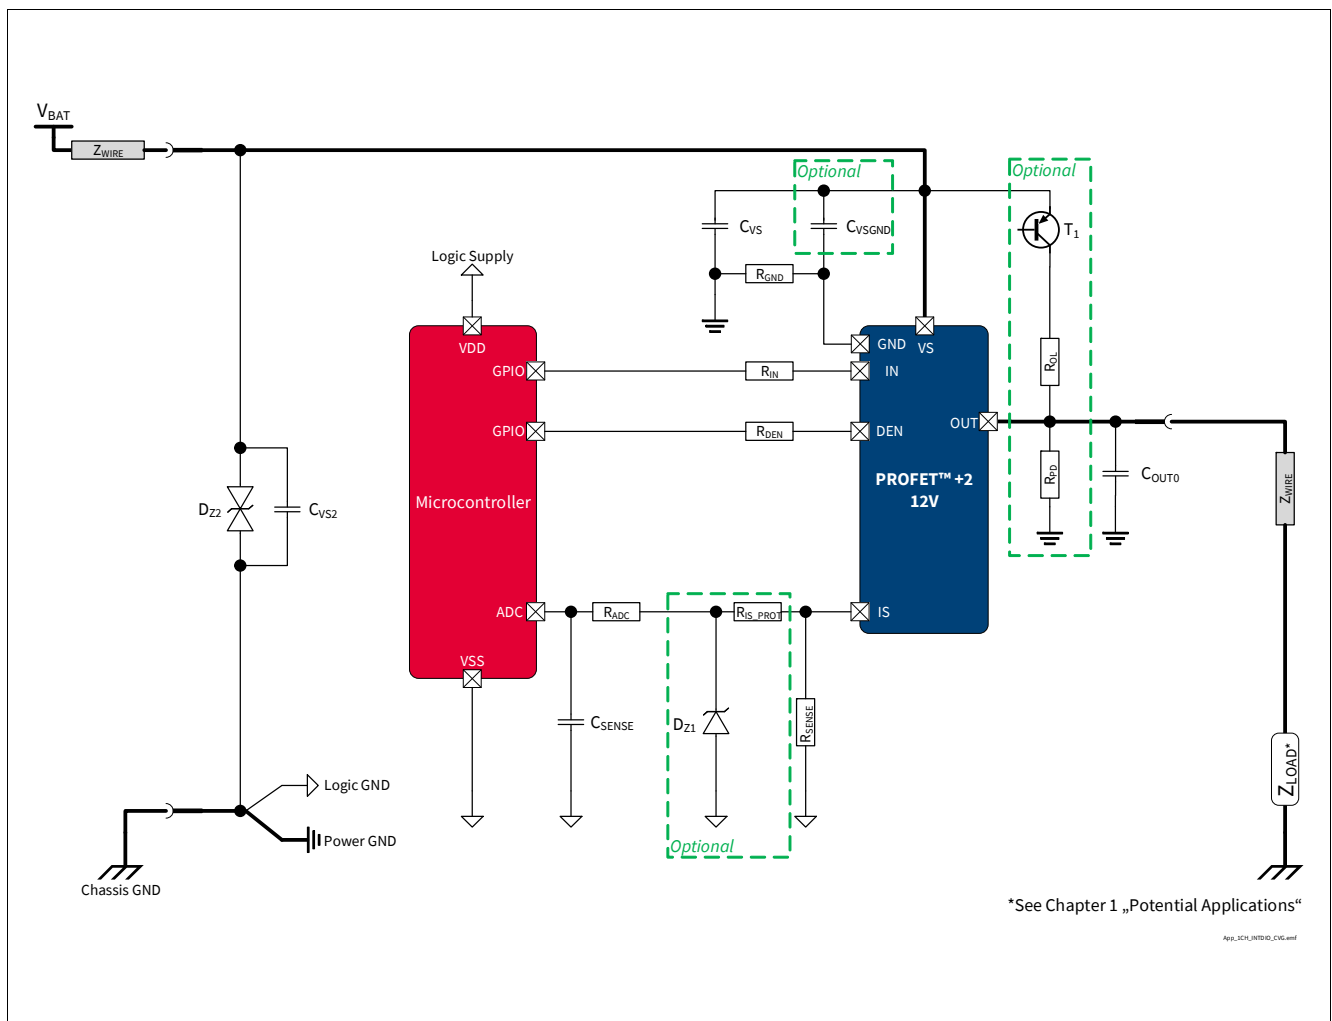
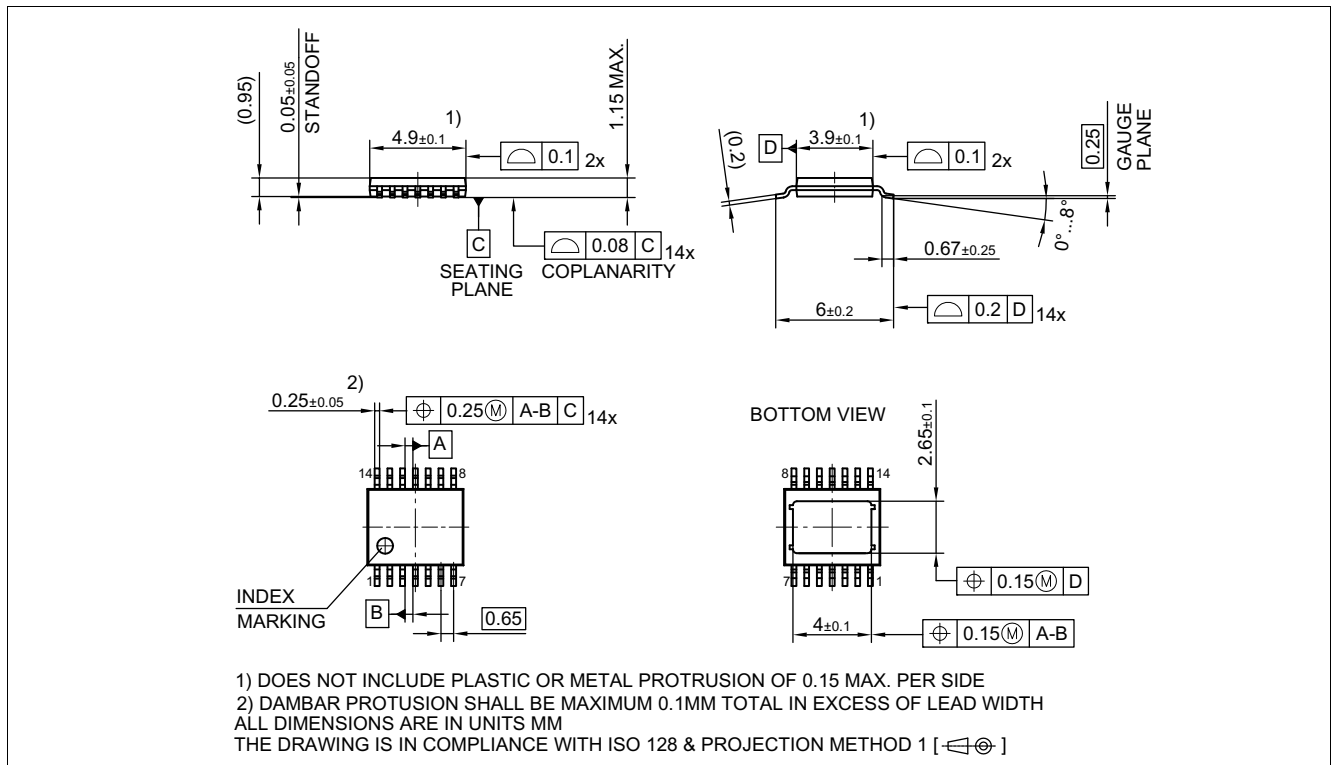
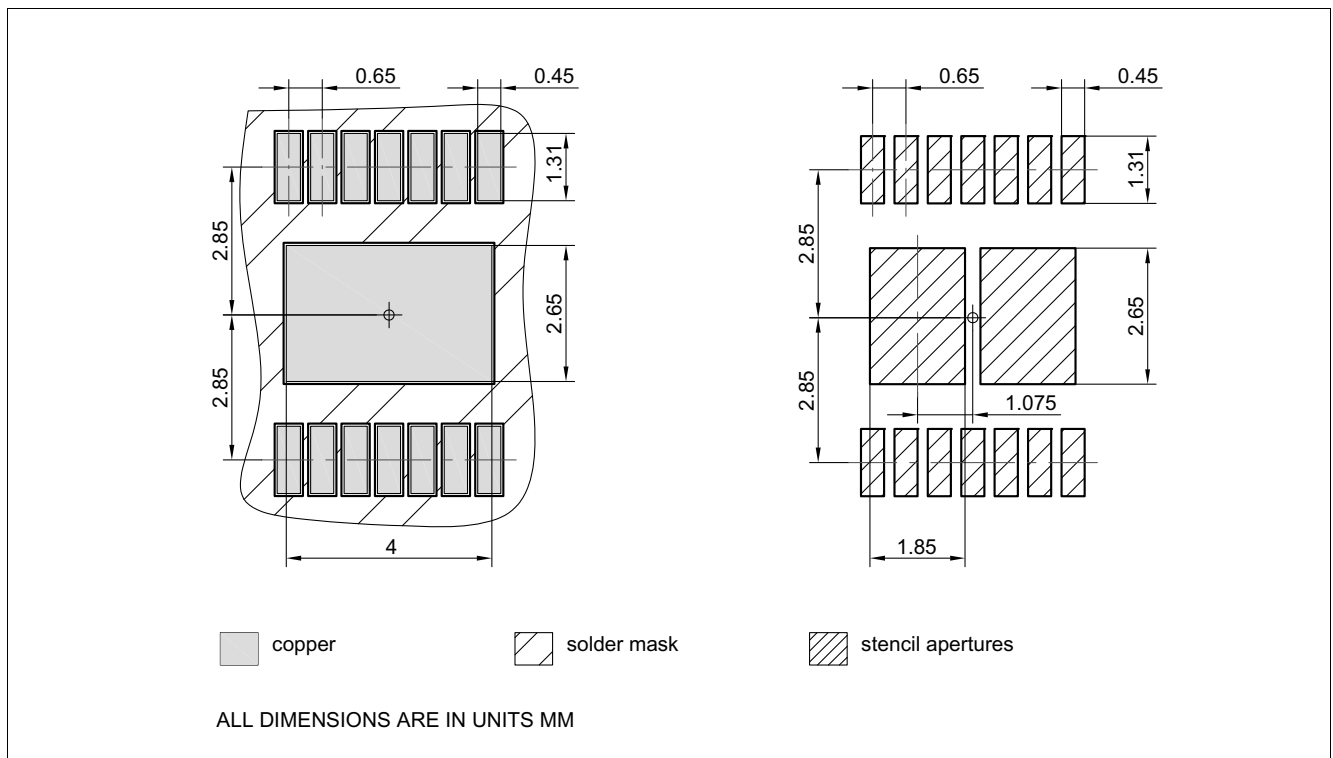

Figure 37 BTS7004-1EPP Application Diagram
Figure 38 PG-TSDSO-14 (Thin (Slim) Dual Small Outline 14 pins) Package Outline
Figure 39 PG-TSDSO-14 (Thin (Slim) Dual Small Outline 14 pins) Package pads and stencil
1.10, 2020-12-14	<p>Typo fixed (PROFET™+2 → PROFET™ +2)</p> <p>Figure 1, Figure 16, Figure 17, Figure 18, Figure 20, Figure 21, Figure 22, Figure 25, Figure 29, Figure 30, Figure 34, Figure 37 updated</p> <p>Chapter 1, Chapter 6.1, Chapter 6.1.3, Chapter 6.1.4, Chapter 8.2, Chapter 9.2.2 updated</p> <p>Chapter 8.4.1 updated (typo fixed)</p> <p>P_7.4.5.1, P_7.4.5.2, P_7.4.5.3, P_7.4.5.4, P_7.4.5.6, P_7.4.5.7 updated (added in Note or Test Condition: See Figure 15)</p> <p>P_8.6.4.1 updated (added in Note or Test Condition: See Figure 26)</p> <p>P_8.6.4.2 updated (added in Note or Test Condition: See Figure 27)</p> <p>P_9.6.0.6 updated (Parameter: SENSE Operative Range for k_{ILIS} Operation ($V_S - V_{IS}$) → Saturation Voltage in k_{ILIS} Operation ($V_S - V_{IS}$))</p> <p>P_9.6.0.7 updated (Parameter: SENSE Operative Range for Open Load at OFF Diagnosis ($V_S - V_{IS}$) → Saturation Voltage in Open Load at OFF Diagnosis ($V_S - V_{IS}$))</p> <p>P_9.6.0.8 updated (Parameter: SENSE Operative Range for Fault Diagnosis ($V_S - V_{IS}$) → Saturation Voltage in Fault Diagnosis ($V_S - V_{IS}$))</p>
1.03, 2019-10-15	<p>P_6.5.21.1 updated (Typ.: 0.01 μA → 0.05 μA)</p> <p>P_8.7.11.1, P_8.7.11.7, P_8.7.11.8 updated (added in Note or Test Condition: link to Figure 24)</p> <p>P_7.5.11.5 updated (added in Note or Test Condition: see Figure 18)</p> <p>P_7.5.11.12 updated (added in Note or Test Condition: see Figure 20; deleted unnecessary space in Symbol: $dV_{OUT} / dt \rightarrow dV_{OUT} / dt$)</p> <p>P_8.7.11.6 updated (added in Note or Test Condition: see Figure 25)</p> <p>P_9.7.11.1 updated (added in Note or Test Condition: see Figure 32)</p> <p>Figure 1, Figure 37 updated</p> <p>P_4.3.0.7 added</p> <p>Table 22 updated</p> <p>Chapter 5.1 updated (added: see Chapter 10 for the complete application setup overview)</p>
<p>1.01, 2019-02-05</p>	<p>Figure 9, Figure 10 updated P_7.5.11.10 updated (Min./Typ./Max.: - / - / 10 μA \rightarrow - / - / 15 μA) Page 1: updated (figure product) Table 22 updated (punctuation) Chapter 9.3, Chapter 9.3.1 updated (typo) Page 1: updated (Package PG-TSDSO-14-22 \rightarrow Package PG-TSDSO-14) Figure 38 updated (PG-TSDSO-14-22 (Thin (Slim) Dual Small Outline 14 pins) Package Outline \rightarrow PG-TSDSO-14 (Thin (Slim) Dual Small Outline 14 pins) Package Outline) Figure 39 updated (PG-TSDSO-14-22 (Thin (Slim) Dual Small Outline 14 pins) Package pads and stencil \rightarrow PG-TSDSO-14 (Thin (Slim) Dual Small Outline 14 pins) Package pads and stencil) Table 1 updated (Parameter: Minimum Overvoltage protection ($T_J = 25\text{ }^\circ\text{C}$) \rightarrow Minimum Overvoltage protection ($T_J \geq 25\text{ }^\circ\text{C}$)) Table 1 updated (Symbol: $I_{VS(OFF)}$ \rightarrow $I_{VS(OFF)_85}$) P_6.5.21.1 updated (Symbol: $I_{VS(OFF)}$ \rightarrow $I_{VS(OFF)_85}$) P_6.5.21.2 updated (Symbol: $I_{VS(OFF)}$ \rightarrow $I_{VS(OFF)_150}$) P_4.2.11.3 updated (Note or Test Condition: \rightarrow -) Figure Application Diagram, Figure 29, Figure 37 updated P_4.1.0.21, P_4.1.0.22, P_4.1.0.23, P_4.1.0.24 updated (footnote ESD standards) Table 1 updated ($R_{DS(ON)}$ \rightarrow $R_{DS(ON)_150}$), ($V_{DS(CLAMP)}$ \rightarrow $V_{DS(CLAMP)_25}$) Chapter 8.5.2 updated (phrasing) Chapter 6.4, Chapter 7.5, Chapter 8.7, Chapter 9.6 updated (added conditions) Figure 28 updated (Over Load \rightarrow Overload, deleted bow) P_9.6.4.8, P_9.6.4.9 updated (removed line before the footnote)</p>